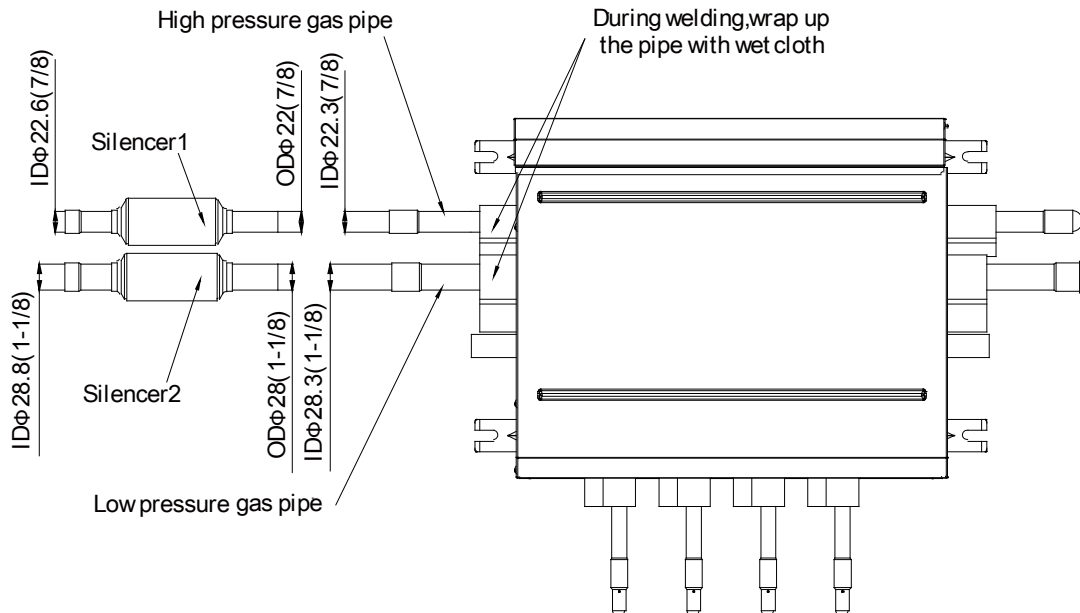

Fig.4.19
**NOTICE** During welding, wrap up the pipe with wet cloth (as shown in the Fig.4.19).